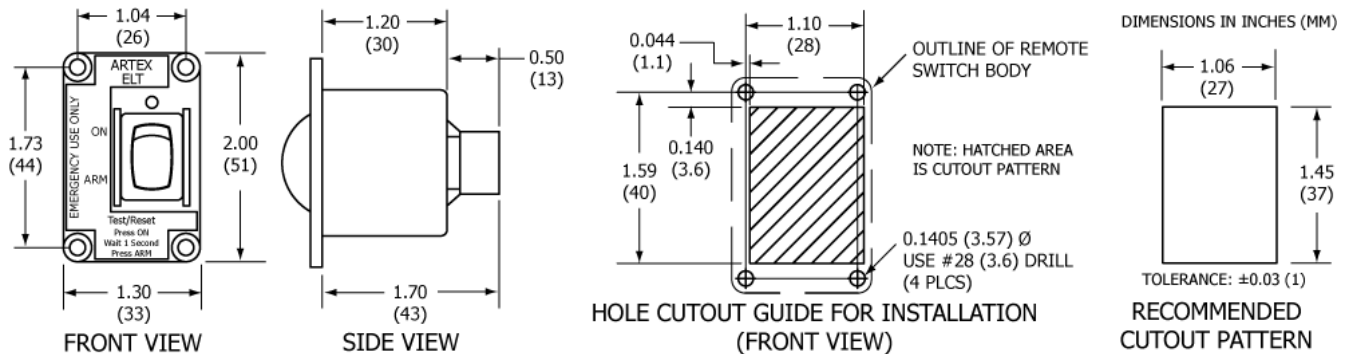

Figure 15 Remote Switch Outline and Dimensions
- 2) The switch assembly requires a panel area of approximately 2.0 x 1.3 in. (51 x 33 mm). Figure 15 shows the dimensions. The clearance behind the panel must allow for the mating connector and harness wires, as well as the switch depth.